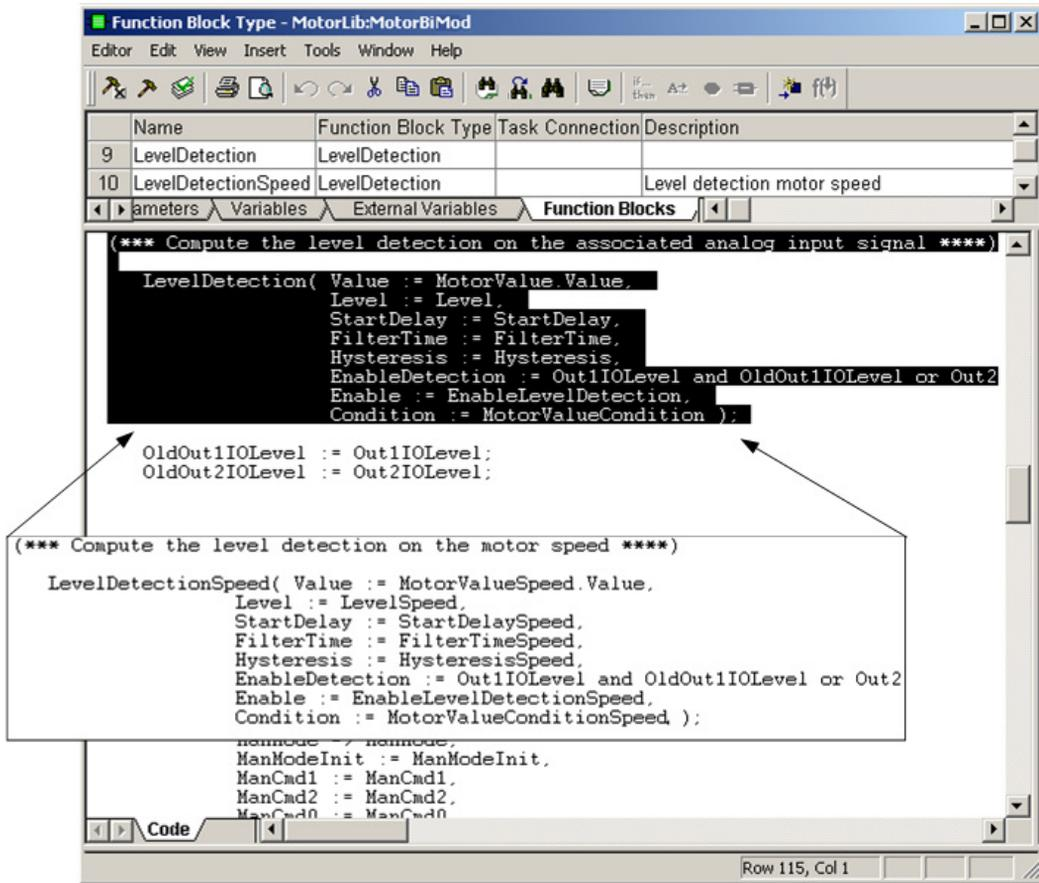

Figure 171. Level detection functionality added to the MotorBiMod function block type
4. According to Figure 171, declare the new function block (LevelDetectionSpeed), change the function block name in the code pane and declare the required variables. Connect the parameters by right-clicking on the function block in the code pane and selecting **Edit>Parameter list** (Ctrl+M).